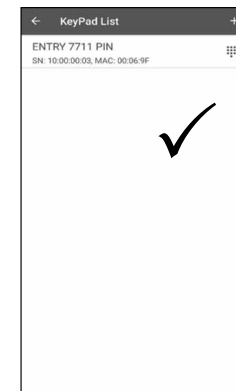

Fig. 14
⑪ Your *ENTRY 7711 Keypad PIN* is now fully setup. It will now appear in the list of setup keypads (Fig. 14).